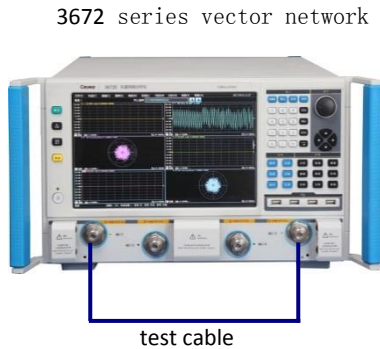

Fig. 11.7 Block Diagram I of Dynamic Range Calibration Test of System
- 1) As shown in Fig. 11.7, connect the system and preheat is for 60min at least.